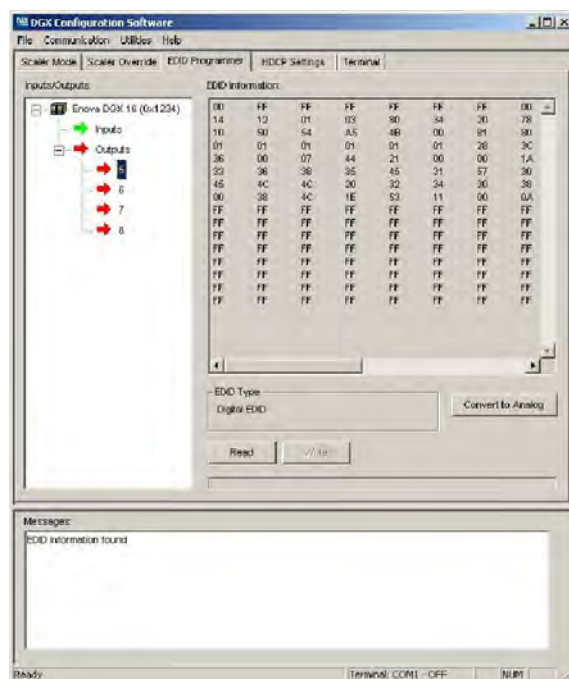

FIG. 182 EDID Programmer view
1. On the PC, open the DGX Configuration Software and select the EDID Programmer tab (FIG. 182):